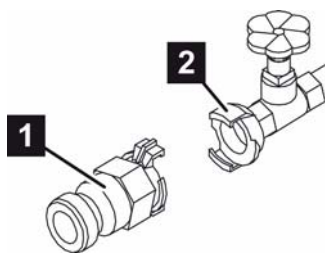

Fig. 48: Plaster component
22. Connect the plaster component (Fig. 48/1) to the mortar pressure connection (Fig. 48/2).